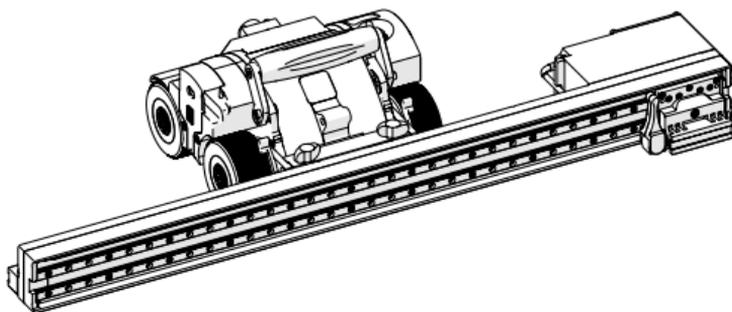

Fig. 48 - Properly mounted raster arm
2. Tighten the two black wing knobs to secure the raster arm (Fig. 48).